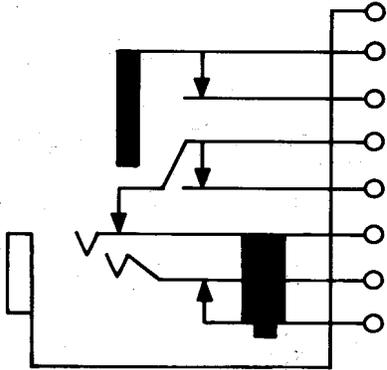

Fig. 12—446A or C Jacks
2.10 **446A and C:** These single mounted jacks (Fig. 12) are arranged to be used with the 310 or similar-type plugs. The 446C jack is intended to be mounted with the springs in a horizontal plane in the 252A jack mounting inasmuch as the height of the spring pileup will not permit mounting by means of a screw inserted from the rear of the mounting lug.